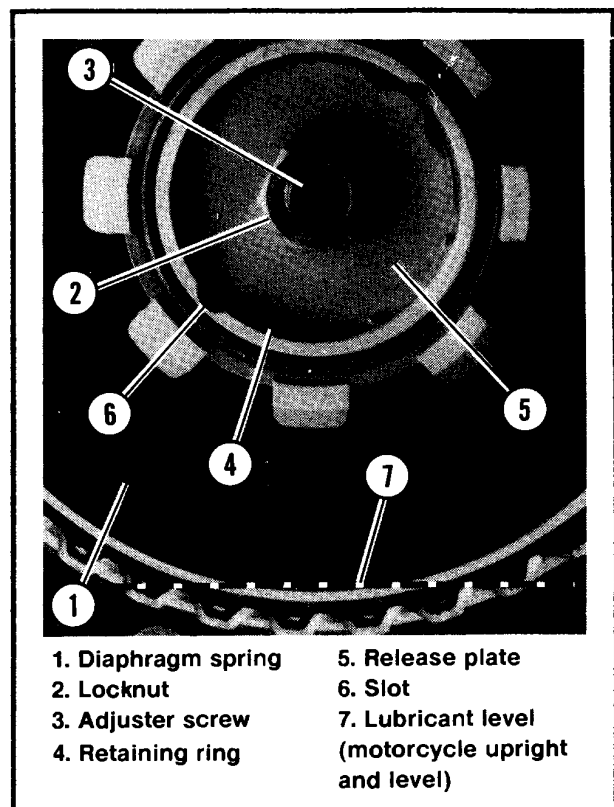

Figure 2. Push Rod Adjustment
2. See Figure 2. Loosen locknut (2) and unthread adjuster screw (3) from release plate (5).
3. See Figure 2. After transmission side cover has been installed, fill the transmission with lubricant to the full mark on dipstick with dipstick resting in place (not threaded into side cover). Adjust clutch push rod by lightly bottoming adjuster screw (3) and then backing screw out 1/2 - 3/4 turn. Hold screw with allen wrench and tighten locknut (2) to 6-10 ft-lbs torque.